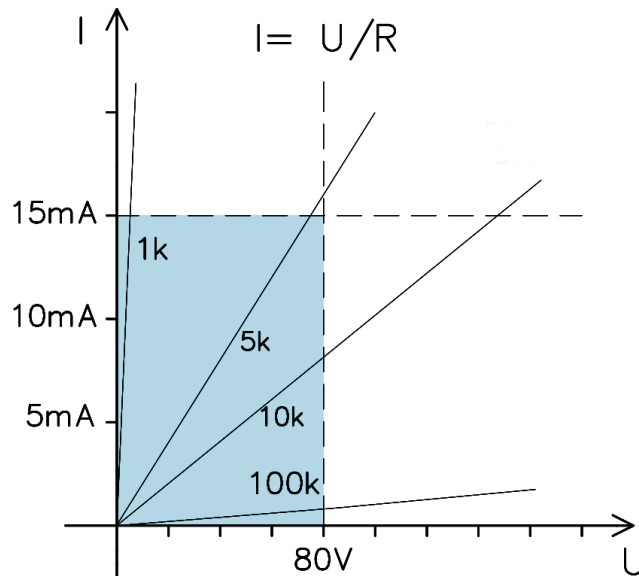

Figure 1: Current/voltage/resistance dependency with respect to g.Estim PRO limits. Stimulation is possible with values within the blue area.
According to Ohm's law (1) the stimulation output voltage $U_{\text{Stimulation}}$ is directly proportional to the settled stimulation current $I_{\text{Stimulation}}$ and load resistance R_{load} . This dependency is also shown in Figure 1.